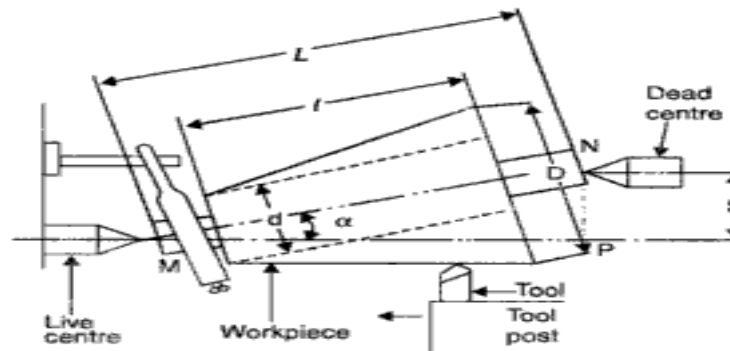

Fig. 4.12. Turning taper by tailstock set-over method.
- It is based upon the principle of shifting the axis of rotation of the workpiece, at an angle to the axis, and feeding the tool parallel to the lathe axis. The angle at which the axis of rotation of the workpiece is shifted is equal to half angle of taper. This is done when the body of the tailstock is made to slide on its base towards or away from the operator by a setover screw as shown in Fig. 4.12.